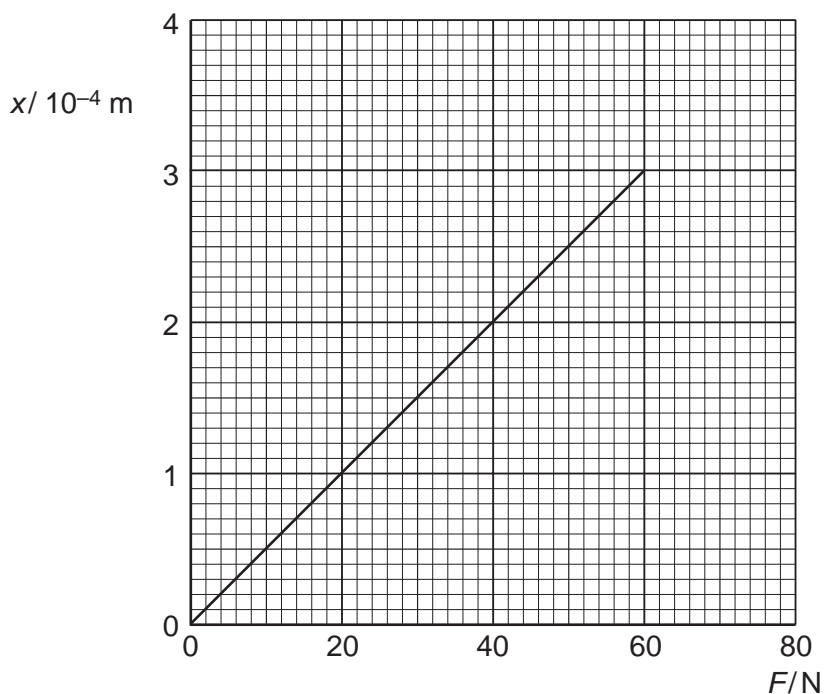

Fig. 4.1
- 3 A glass fibre of length 0.24 m and area of cross-section $7.9 \times 10^{-7} \text{ m}^2$ is tested until it breaks. The variation with load F of the extension x of the fibre is shown in Fig. 4.1.
- (b) Use Fig. 4.1 to determine, for this sample of glass,